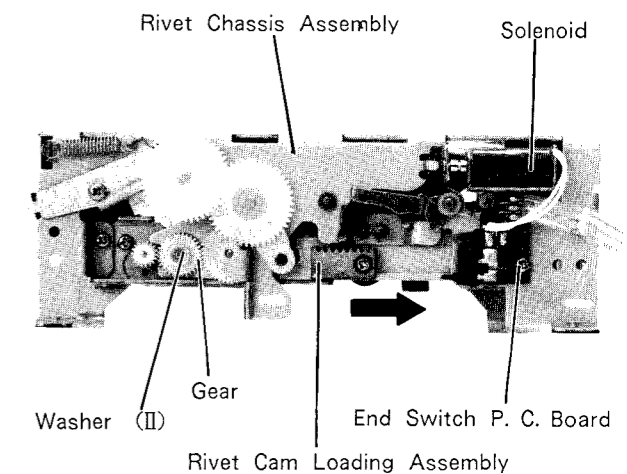

Figure 29
- (1) After removing the Rivet Loading Bracket, remove one washer (II) and gear as shown in Figure 29.
- (2) After moving the Rivet Cam Loading Assembly in the arrow direction, remove two screws marked "◇" as shown in Figures 29 and 31.